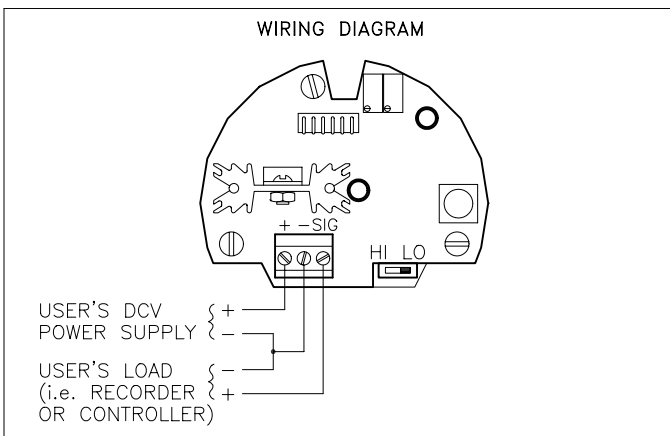

Figure 5
**1) Power (see Figure 5):** Two wire entries are provided for wiring convenience, especially if separation of power and output is required. Route wires through entry. While observing polarity, connect the DC voltage source to the “+” and “-” terminals located on the PCB. Improper interconnection may result in circuit damage. Connect the shield of your shielded cable to either the voltage source’s earth ground, or the ground post provided in the sensor. Connect only one end of the shield, leaving the other end unattached.
**2) Output (see Figure 5):** Route wires through conduit entry and connect the positive end of the analog output load to the “SIG” terminal and the negative end of the analog output load to the “-” terminal of the power supply. Note that the power source “-” and the analog output “-” are the same point. The sensor is acting as a current sourcing device. Isolation is provided between the sensor’s housing ground and the “-” terminal on the sensor’s PCB. See specifications for isolation value. The power source therefore provides the energy to operate the sensor and the energy needed to generate the current loop.